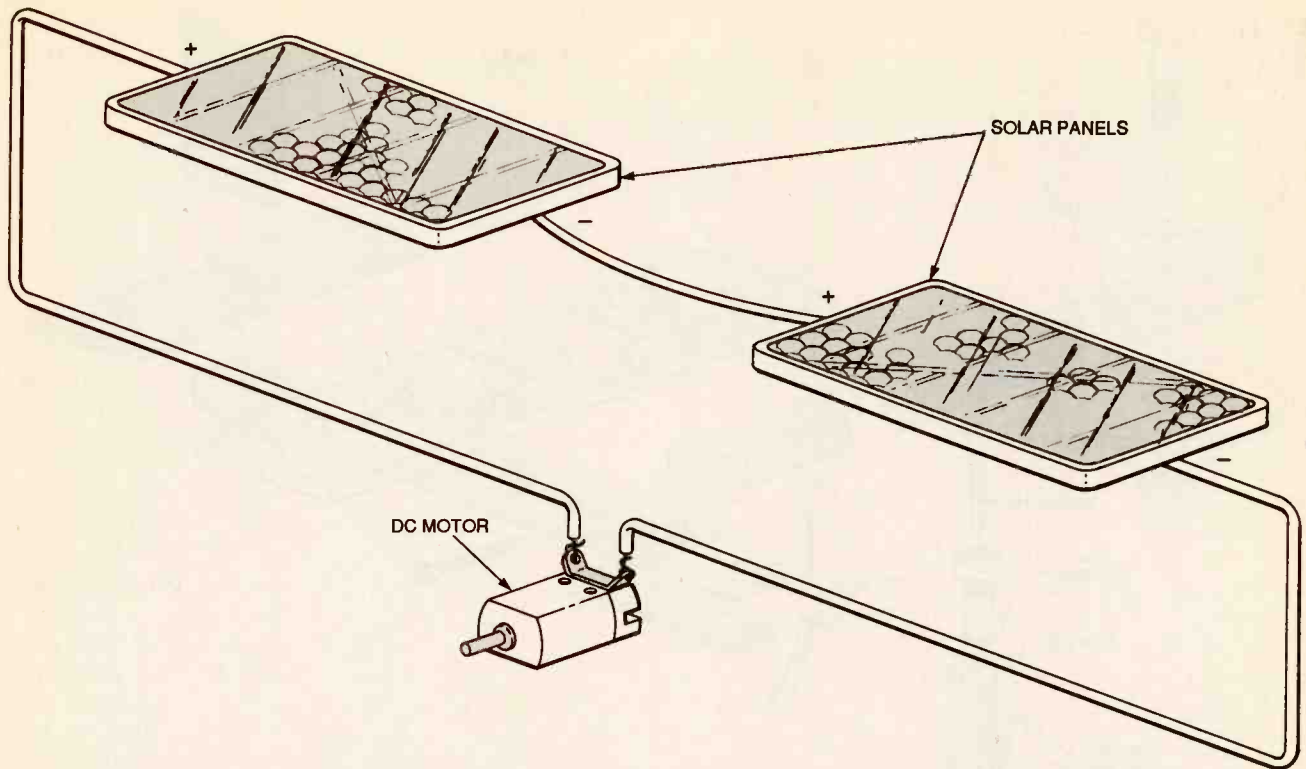

Fig. 1. As this "schematic" shows, two solar panels and one DC motor are the only components that make up the airplane's circuit.
**Building the Plane.** Figure 1 shows the "schematic" of the airplane circuit, if you want to call it that. Do two solar panels plus one DC motor make a circuit?—technically I guess they do, albeit a very simple one!
**Circuit Description.** The circuit shown in Fig. 1 is the classic push-pull
Fig. 1. Here is the schematic for the tube amplifier. Its single-stage design, which eliminates unwanted feedback, was made possible by the sensitive 60FX5 vacuum tubes.